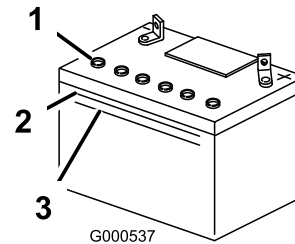

Figure 43
2. Look at the side of the battery. The electrolyte must be up to the Upper line (Figure 43). Do not allow the electrolyte to fall below the Lower line (Figure 43).
3. Remove the vent caps from the battery (Figure 43).
4. Slowly pour distilled water into each battery cell until the electrolyte level is up to the Upper line (Figure 43) on the battery case.
5. Wait five to ten minutes after filling the battery cells. Add distilled water, if necessary, until the electrolyte level is up to the Upper line (Figure 43) on the battery case.